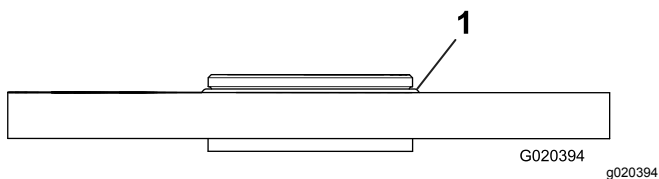

Figure 8
14. Ensure that the O-ring is installed on the roller brush housing (Figure 7 and Figure 8).